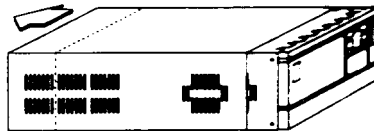

Figure 2: Removing the top cover o/ the A 5000
- 4 Rest the computer on its base again and slide the lid **backwards** to the rear of the computer (see Figure 2 *Removing the top cover of the A 5000*). Remove the lid completely